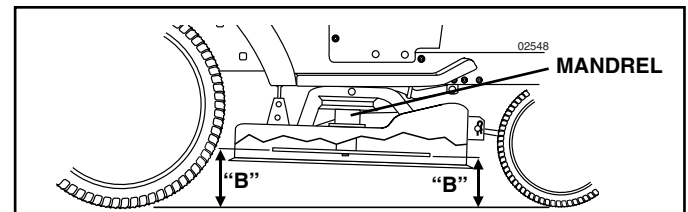

FIG. 22
**FRONT-TO-BACK ADJUSTMENT** (See Figs. 22 and 23)